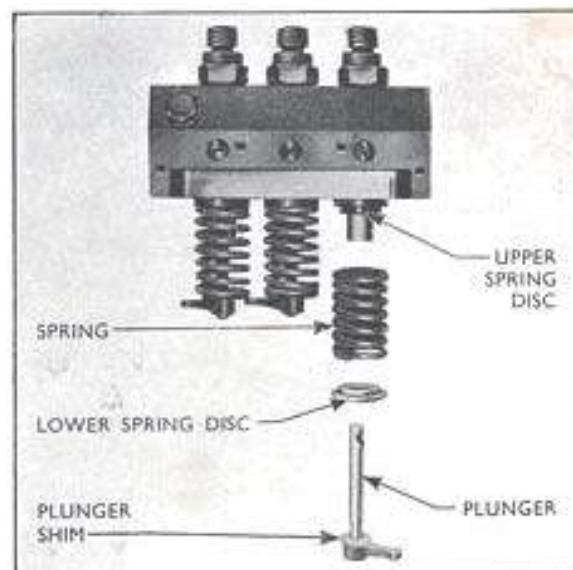

Fig. 23
11. Withdraw the plungers, after removing the pump body from the cambox. Fit three plunger shims and the lower spring disc to each plunger (see Fig. 23). Locate the foot of the plunger on the centre of the tappet spacer, press the lower spring disc down against the tappet body, and check for free movement of the plunger. Remove shims until free movement is felt. Each plunger must be checked on its respective tappet and the free movement reduced to a minimum.
Refit the spring and upper spring disc (see Fig. 23), and refit the plungers to their respective barrels.